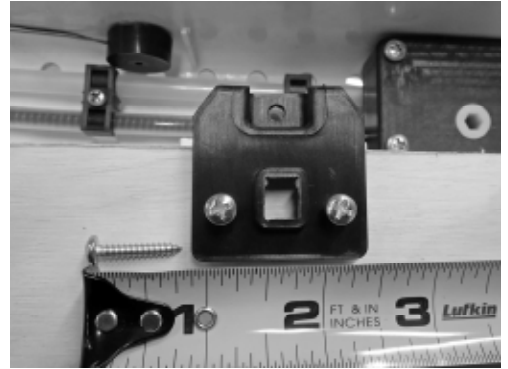

Figure 4
7. Working quickly, move to the inside of the camper and begin screwing the black mounting clamps into the ceiling using two $\frac{3}{4}$ " screws in each clamp as shown in Figure 4. Pilot holes ($\frac{7}{64}$ ") may be needed depending on the composition of your roof. Snug all of the screws down using a hand screwdriver. Do not over tighten. They just need to be snug. Once all the clamps are secured to the roof, install the longer mounting screws to draw the hatch and clamps together. It is suggested that you leave them all just a bit loose, then do the final tightening in a cross pattern to draw the hatch down evenly. Once again, a hand driver will give much better feel and prevent over tightening. The mounting flange should be drawn down flush with the roof surface, all the way around without distortion. Clean up any excess adhesive before it dries. Note: Different lengths of screws are available to draw the roof hatch down, depending on roof thickness. These screws should thread in $\frac{3}{4}$ " to $1 \frac{1}{4}$ ", but no more. If the screws you have do not fit within this range, different screws will be required. We try to supply the correct length screws based on the information we receive regarding roof thickness.